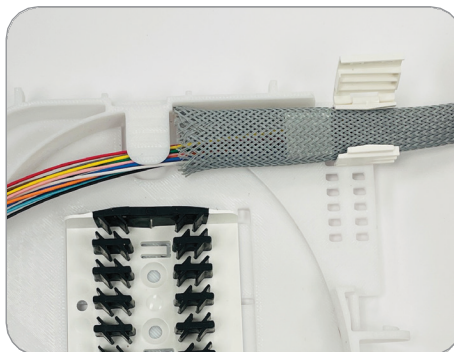

Figure 10
3. Open the V-Clip cover and lay the mesh into the open clip about an inch or two behind the end of the mesh. (Figure 10)